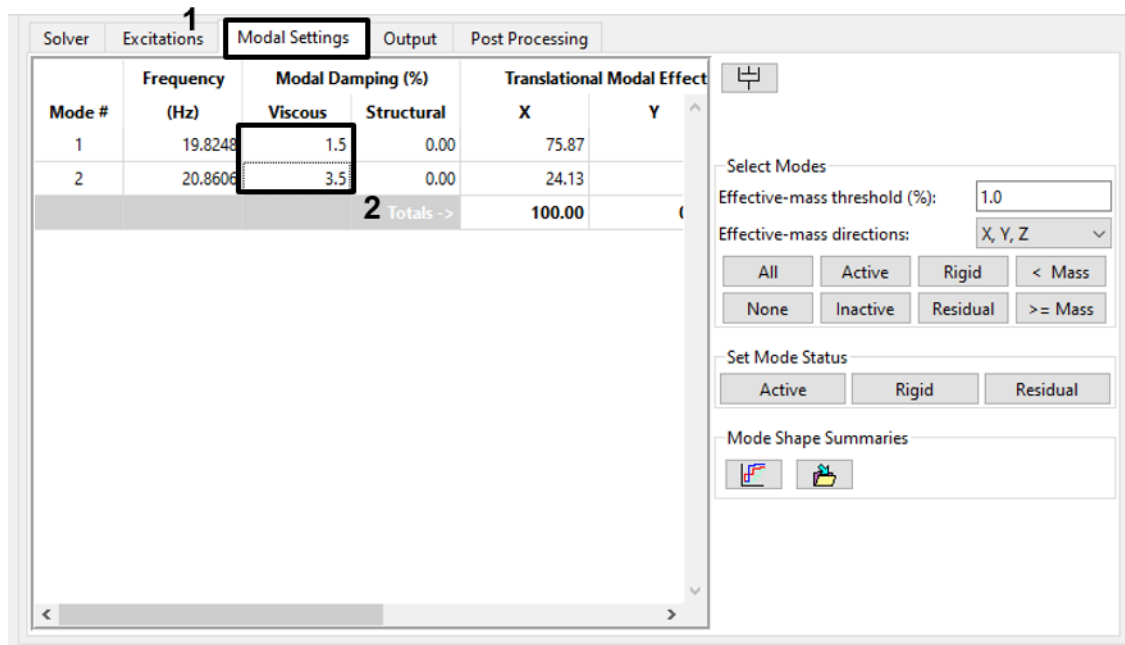

Figure 4-19. With only two modes, you can assign damping directly in the damping table.
- On the *Modal Settings* tab, assign 1.5% damping to mode 1 and 3.5% damping to mode 2. Double-click in the *Viscous* cell under *Modal Damping (%)* for each mode and entering the proper value (Figure 4-19).